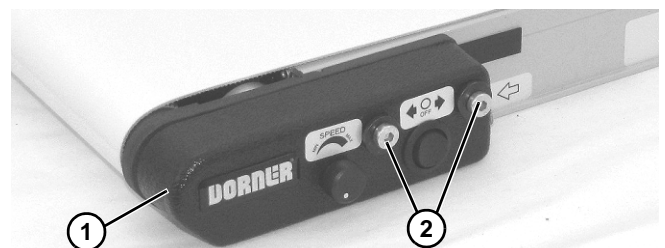

Figure 67
7. Install inframe drive side cover (Figure 67, item 1) with two head plate fastening screws (Figure 67, item 2).